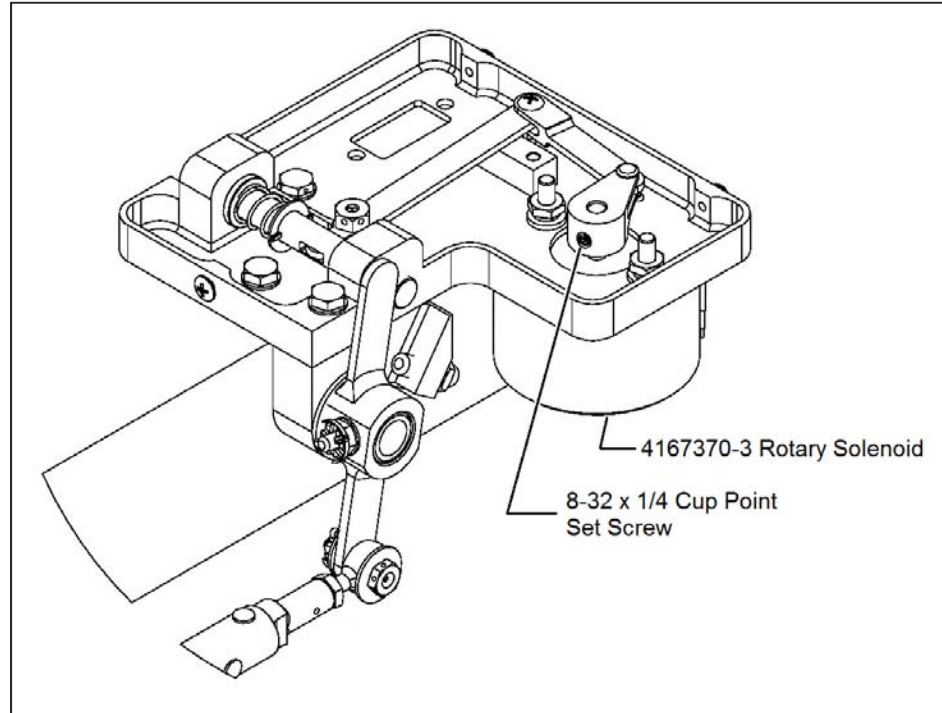

Figure 1. Engine Idle Stop Assembly
- 7.3 Remove the idle stop assembly cover (Figure 1).